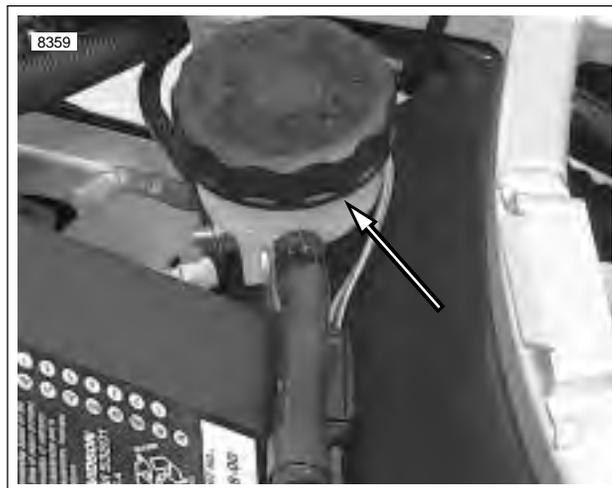

Figure 2-61. Rear Reservoir
5. See Figure 2-61. Verify proper fluid level in reservoir.